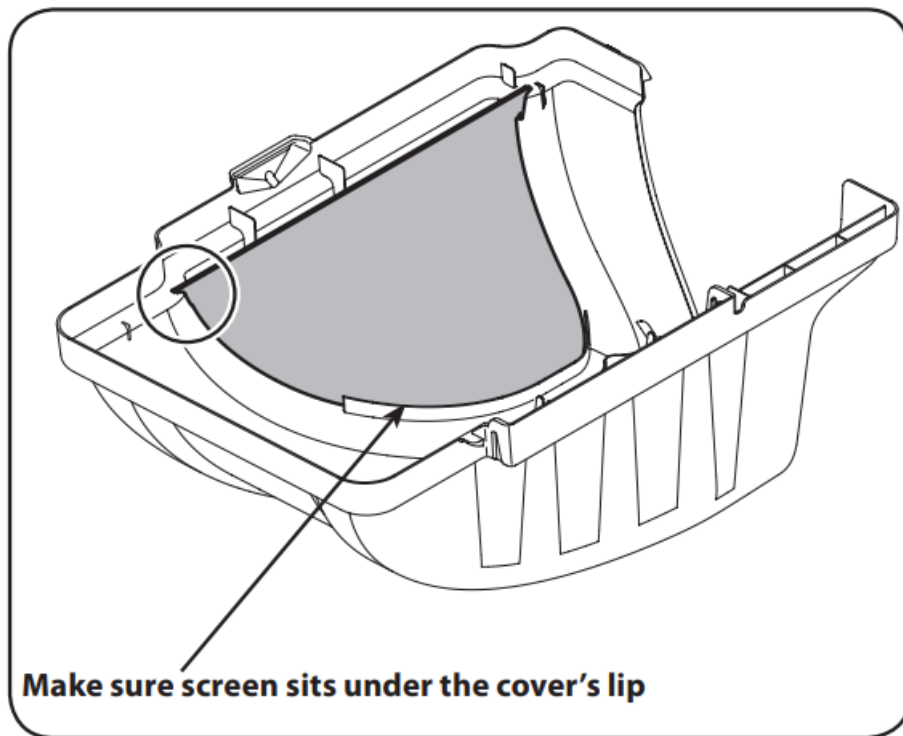

Figure 4-8
Make sure to feed the screen under the lip, as in Figure 4-8.
10. Clip in the other side of the screen by flexing the screen and pushing it down into the other corresponding cutout hole. See Figure 4-8.